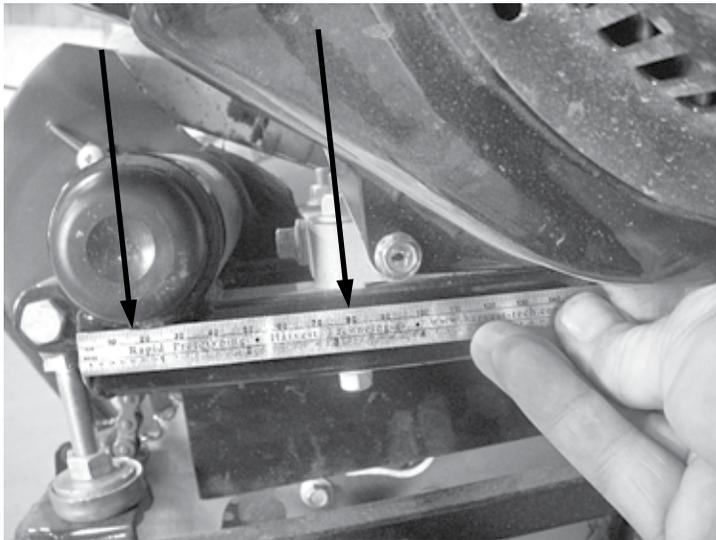

fig. 1
**Identifying the issue:** Measure from the centerline of the jackshaft tube to the centerline of the rearmost engine mounting bolt as shown in figure 1. The measurement should be 55mm. If the measurement is 60mm or greater, this Technical Service Bulletin applies.